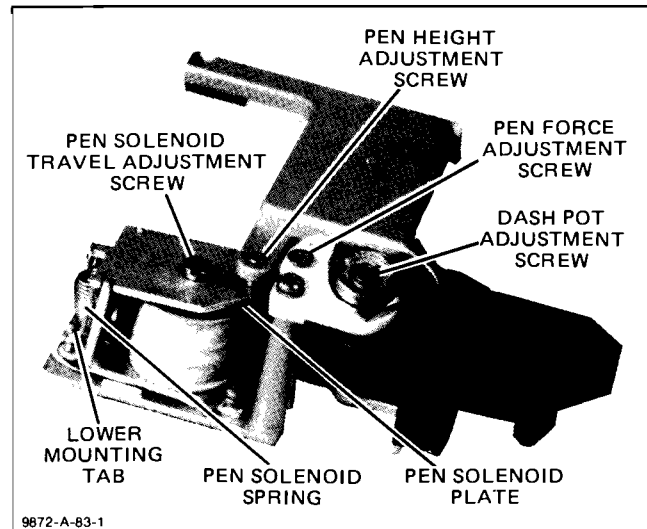

Figure 3-5. Pen Holder Adjustments
- Set the pen height adjustment screw until the pen tip is 2.3 mm (0.09 in.) above the platen. Refer to Figure 3-5 for the adjustment location.
- Using a 0-30 gram gauge, adjust the pen force adjustment screw until a force of 23 ± 3 grams is required to just lift the pen tip from the platen. Refer to Figure 3-5 for the adjustment location.
- Adjustment is performed by bending the bottom pen solenoid plate spring tab either up or down to adjust as necessary. Refer to Figure 3-5 for adjustment locations.